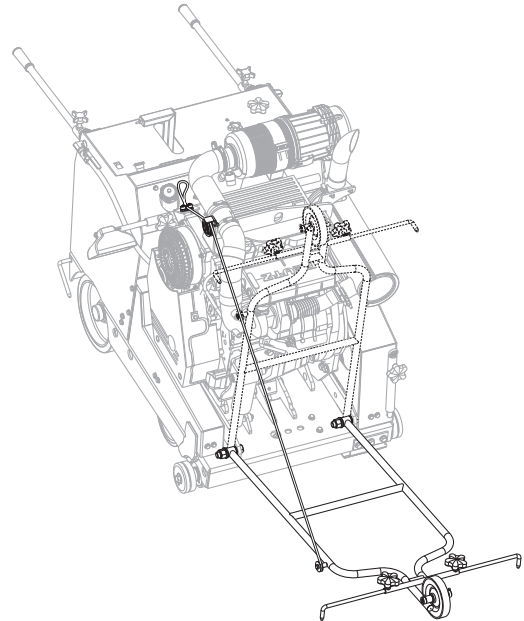

Figure 25. Pointer Assembly
1. Lower the front pointer assembly (Figure 25).